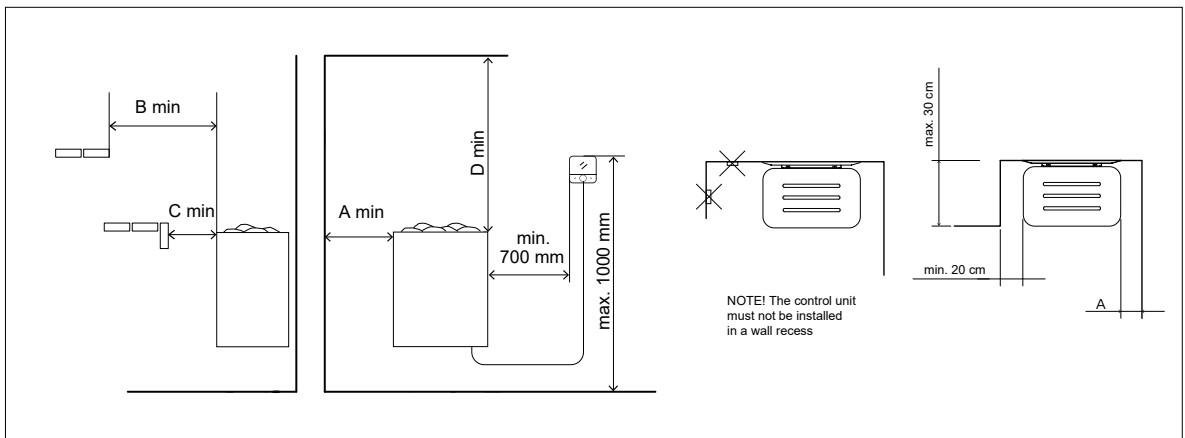

Figure 6.1-1. Minimum safety distances
A heater guard can be built around the sauna heater if necessary, and its design must always comply with the minimum safety distances from combustible materials as specified in the instructions (figure 6.1-1, table 6.1-1). Incorrect installation constitutes a fire hazard.
- The NARVI NC sauna heaters of 4,5-6,0 kW can also be installed in a wall recess, provided that the safe distances given by Figure 6.1-1 are observed.
- The control unit must not be installed in a location where the temperature exceeds 80°C maximum temperature. If the control unit is installed in the steam room, the installation location must be at least the minimum protection distance (0.7 m) from the heater and at most one meter (1 m) above the floor (see Figure 6.1-1). Power supply cables and the control unit's cable should not be installed next to each other to avoid interference.